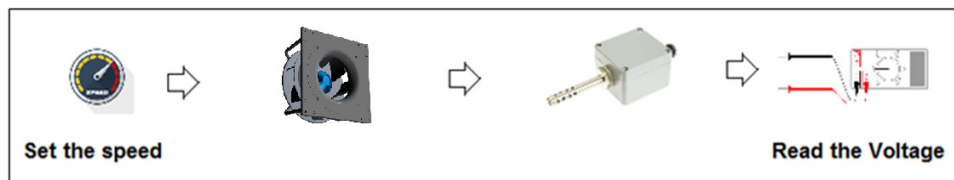

Fig. 40 – Find the PID Reference
- 3) In open loop set the fan speed at the desired performance and read the transducer voltage value (Fig.40)